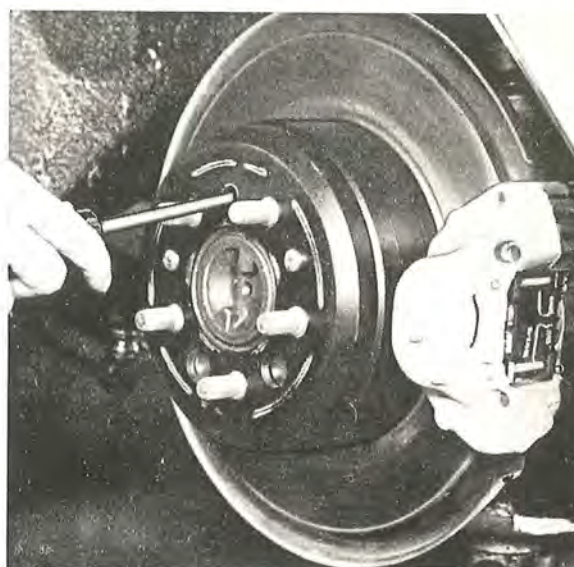

Fig. 5-80. Adjusting the handbrake, rear wheel
4. Set the drum so that its hole coincides with the serrations on the adjusting screw and apply the shoes by moving the screwdriver handle upwards, see Fig. 5-80. When the drum can be rotated easily, discontinue applying the shoes. Then turn the adjusting screw back 4—5 serrations. Check that the shoes do not "drag" by rotating the drum in its normal direction of rotation. Very little dragging may be permitted. If, however, the dragging is more pronounced, the adjusting screw should be released a further 2—3 serrations. Con-
1. Adjust the brake shoes of the rear wheels. Check that the brake pads do not stick to the brake disc and adjust the drums so that its hole coincides with the serrations of the adjusting screw. Place a screwdriver between the serrations of the adjusting screw and apply the shoes by moving the screwdriver handle upwards, see Fig. 5-80. When the drum can be turned easily, discontinue applying the shoes. Then turn the adjusting screw 4–5 serrations back.